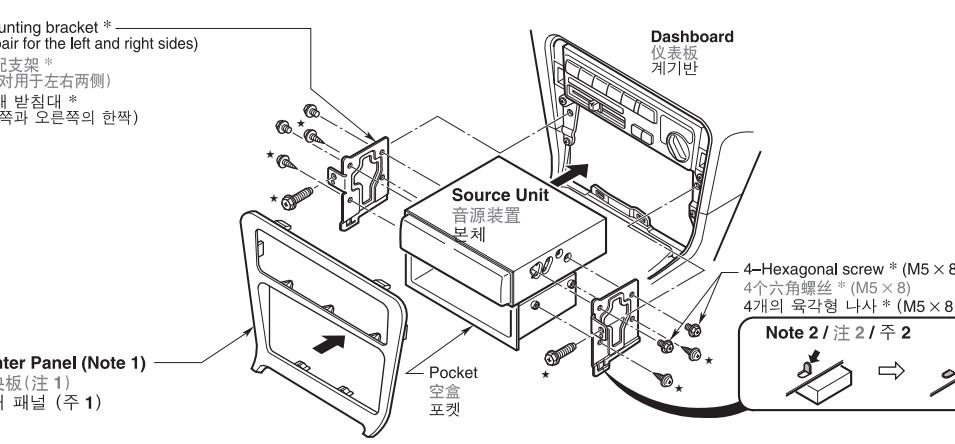

Figure 8 / 圖 8 / 그림 8
If the vehicle is equipped with a factory-installed radio, install the source unit with the parts and screws marked (*). (Figure 8)
- Secure the mounting brackets to the chassis as shown in Figure 8. When the source unit is installed without the universal mounting bracket, holes exist; modification, such as drilling new holes, of the mounting brackets may be required for other models.